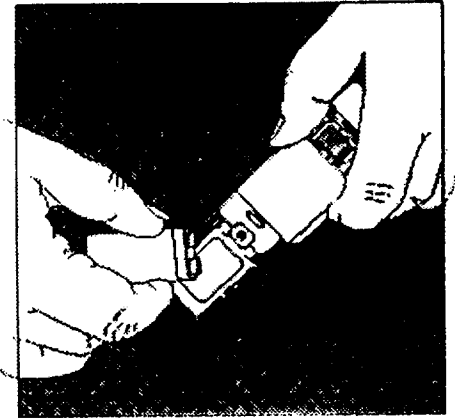

Figure 2
- Remove the battery compartment cover as shown in Figure 2.